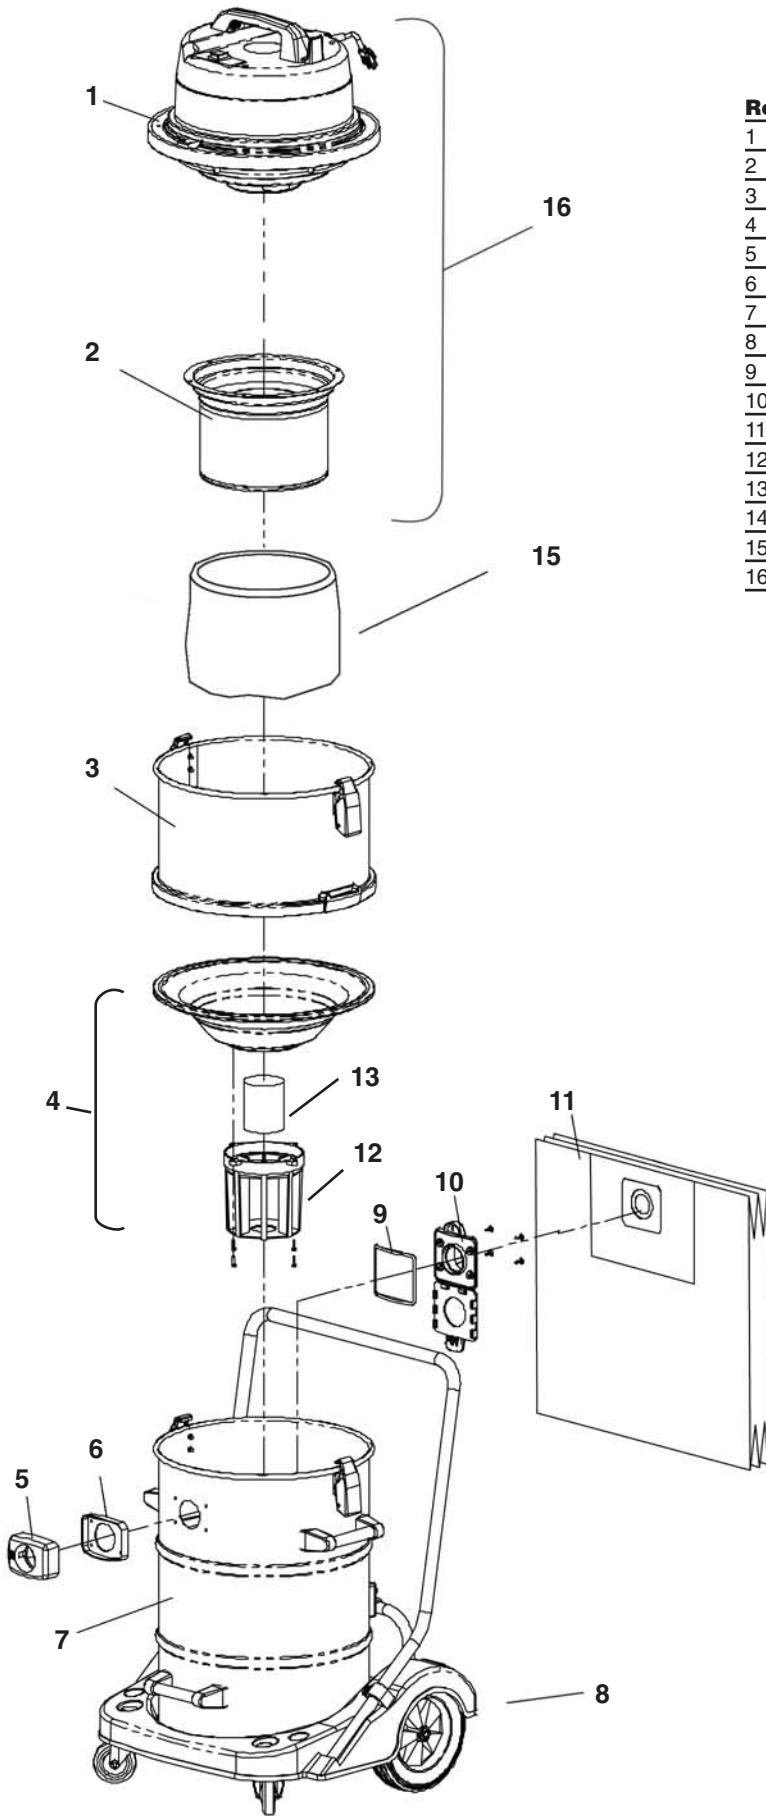

Fig. 1
1. A stainless Steel Spacer (Fig. 1)